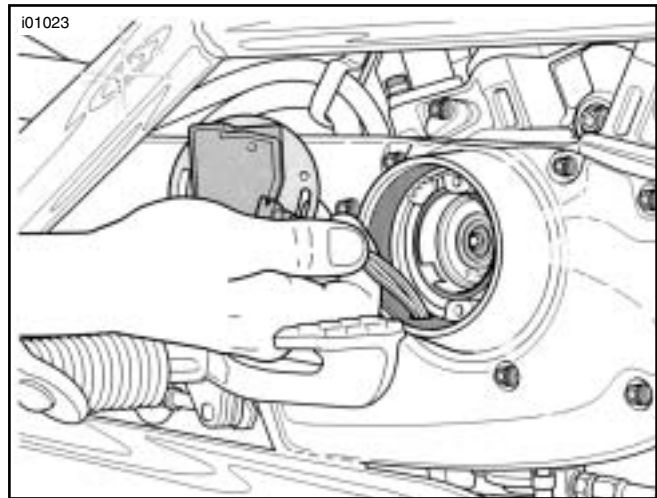

Figure 2. Removing the Module Plate
7. See Figure 2. Remove the module plate and wires.